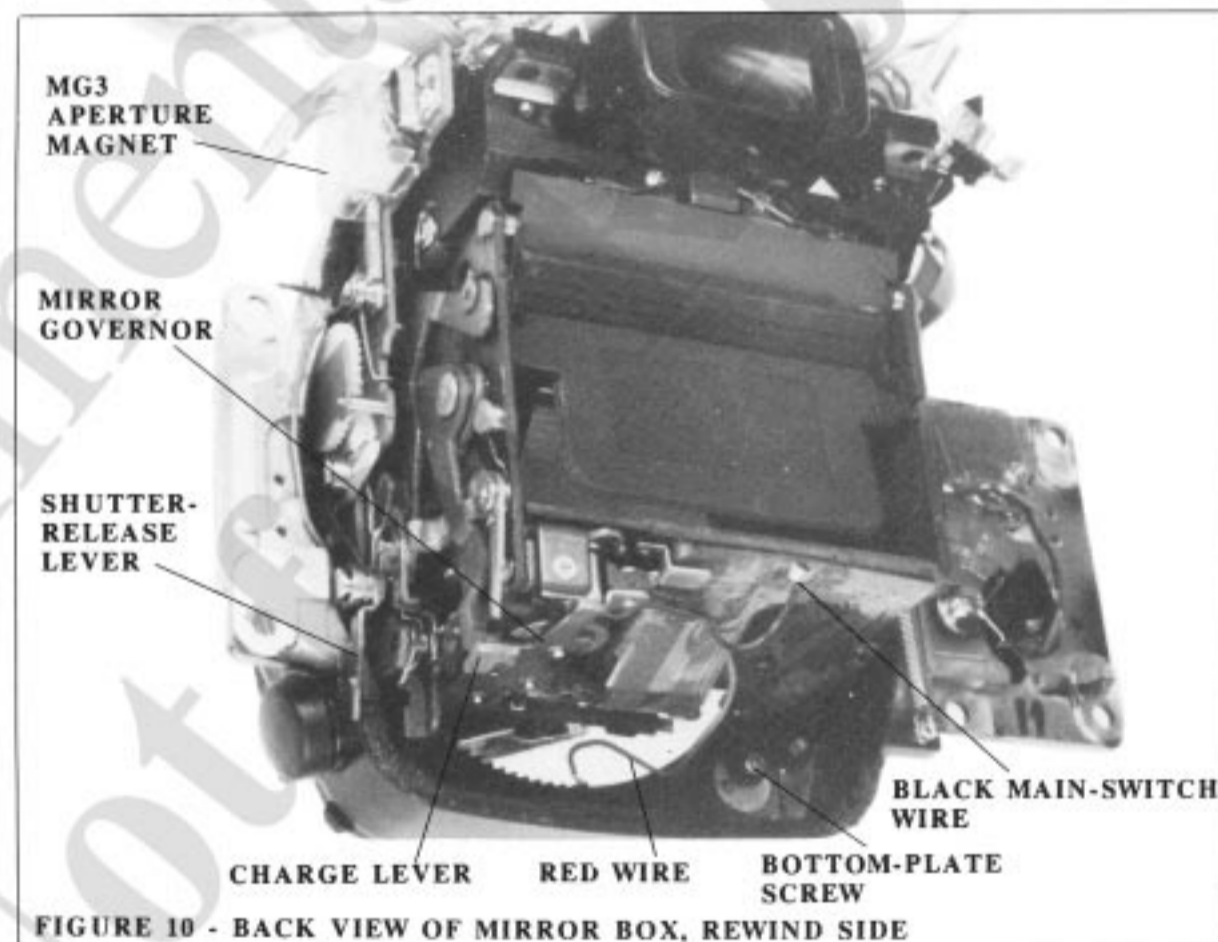
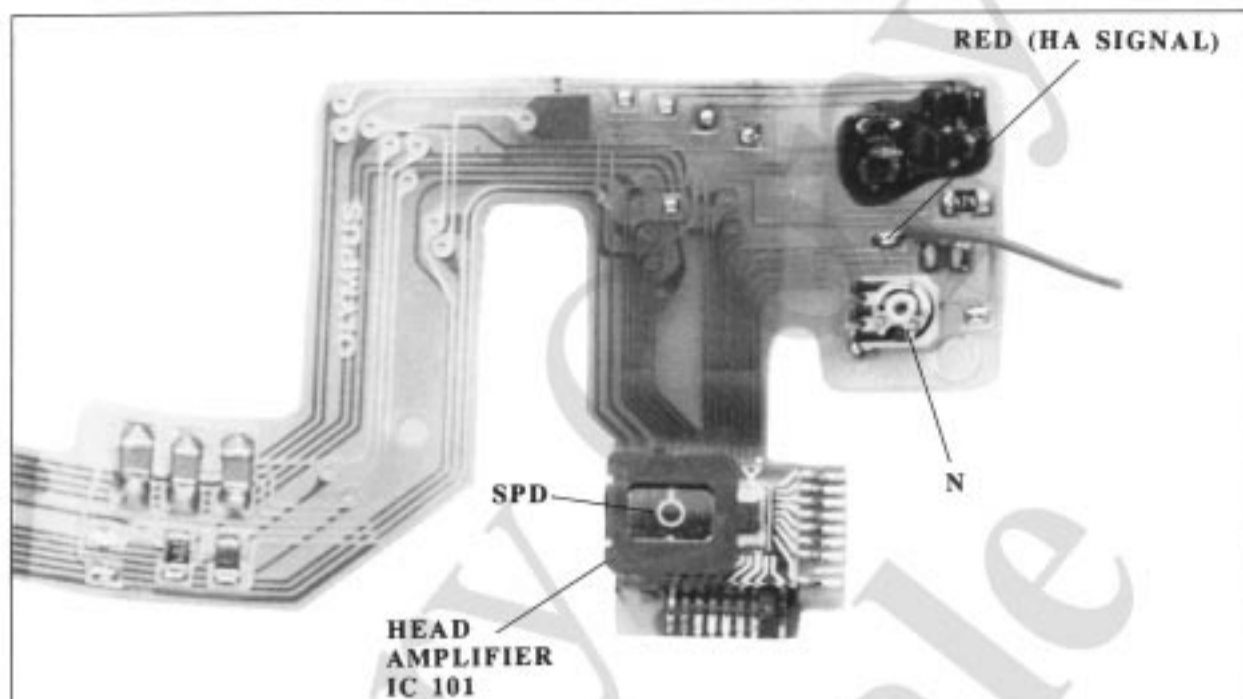

FIGURE 10 - BACK VIEW OF MIRROR BOX, REWIND SIDE
FIGURE 13 - BOTTOM SECTION OF MAIN BOARD REMOVED FROM MIRROR BOX
1. SW101. Main switch, bottom of mirror box, Fig. 10. Closes with the mirror up to signal the release of the 1st curtain.
1. IC101. Head amplifier on main board at bottom of mirror box, Fig. 10 and Fig. 13.
Has two built-in SPDs (average and spot, Fig. 13) for measuring the light passed through the mirror and reflected down by the submirror (indication). With the mirror up, IC101 measures the light from the 1st curtain (fast speeds) or from the film (slow speeds). IC101 provides two outputs -- BV OUT to IC102 for indication and INTEGRATION OUT to IC103 for exposure.
3. MG3. Hybrid aperture magnet, top rewind side of mirror box, Fig. 10. Repels its armature to stop the diaphragm on program mode.